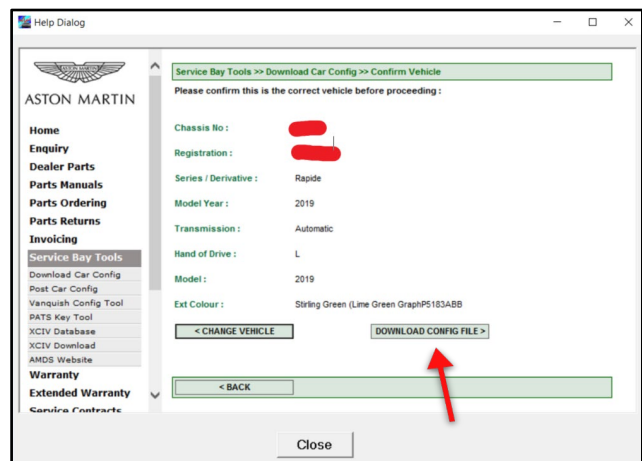

Figure 5
10. Click “DOWNLOAD CONFIG FILE” (refer to Figure 5).